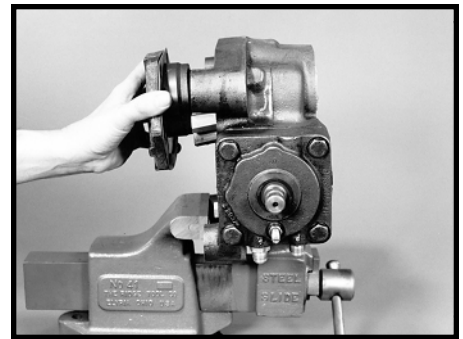
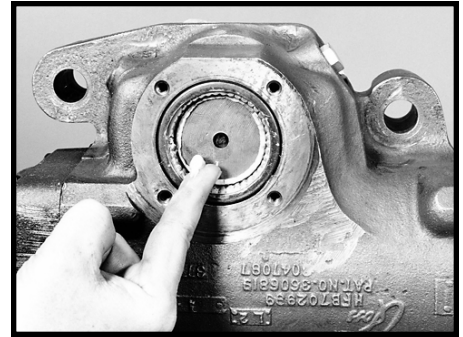

Figure 47
Figure 48
8. Begin to remove the side cover (56) and sector shaft (48) as an assembly. SEE FIGURE 47. Stop removal when the bearing rolls in the housing bearing (20) are half exposed. Coat the bearing rolls with grease. As a means of starting the removal of the side cover and sector shaft assembly, you may use a soft hammer or wooden hammer handle. SEE FIGURE 48.